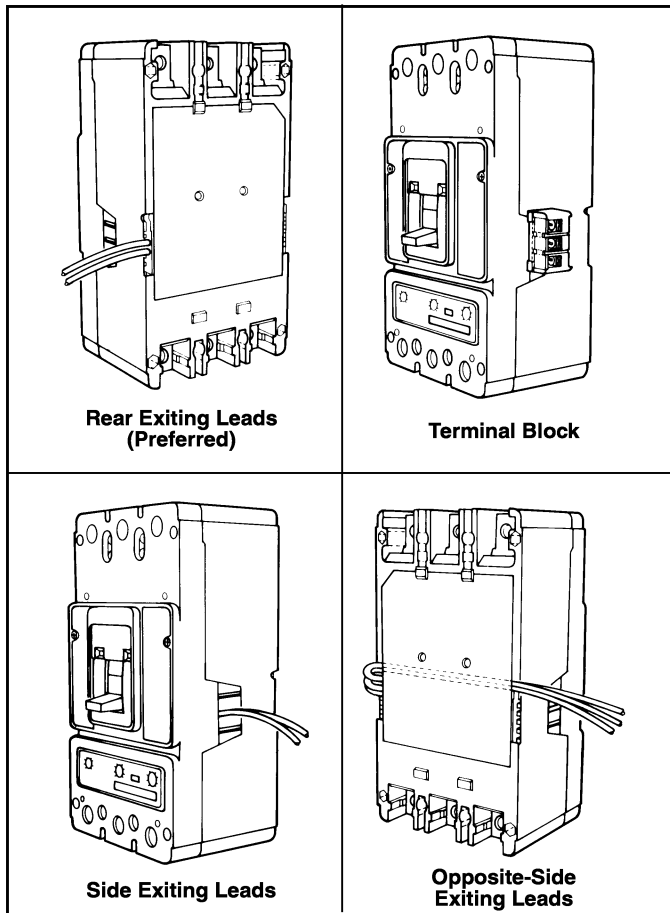

Fig. 2-5 Accessory Wiring Options
- 2-9. Route wiring to meet installation requirements (Fig. 2-5). If required, complete routing of leads of opposite side through rear wiring trough.